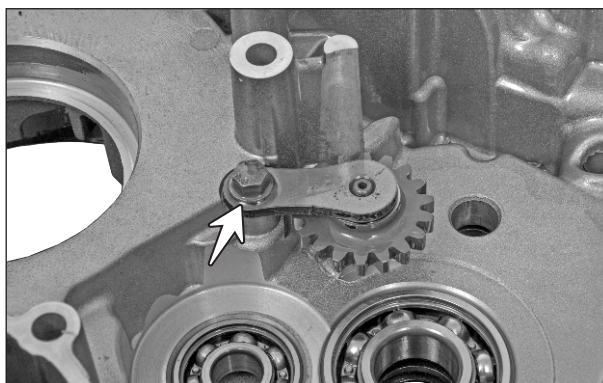

Fig. 3.155
- Remove hexagonal bolt (M6x16 - 1 no.) from the bracket idler gear mounting and dislocate the bracket idle gear. (Fig. 3.155)